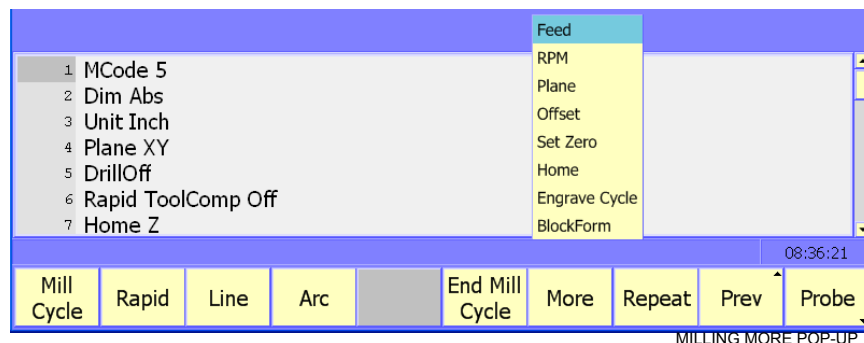

Figure 3-3, Milling (F5)>More (F7) Pop-up Menu
3. Press **More (F7)** to display the More pop-up menu. Refer to **Figure 3-3**.
2. Press **More (F7)** to display the More pop-up menu. Refer to Figure 3-3, Milling \(F5\)>More \(F7\) Pop-up Menu.
2. Press **More (F7)** to display the pop-up menu. Refer to Figure 3-3, Milling \(F5\)>More \(F7\) Pop-up Menu.
2. Press **More (F7)** to display the **More** pop-up menu. Refer to Figure 3-3, Milling \(F5\)>More \(F7\) Pop-up Menu.
2. Press **More (F7)** to display the **More** pop-up menu. Refer to Figure 3-3. Milling \(F5\)>More \(F7\) Pop-up Menu.